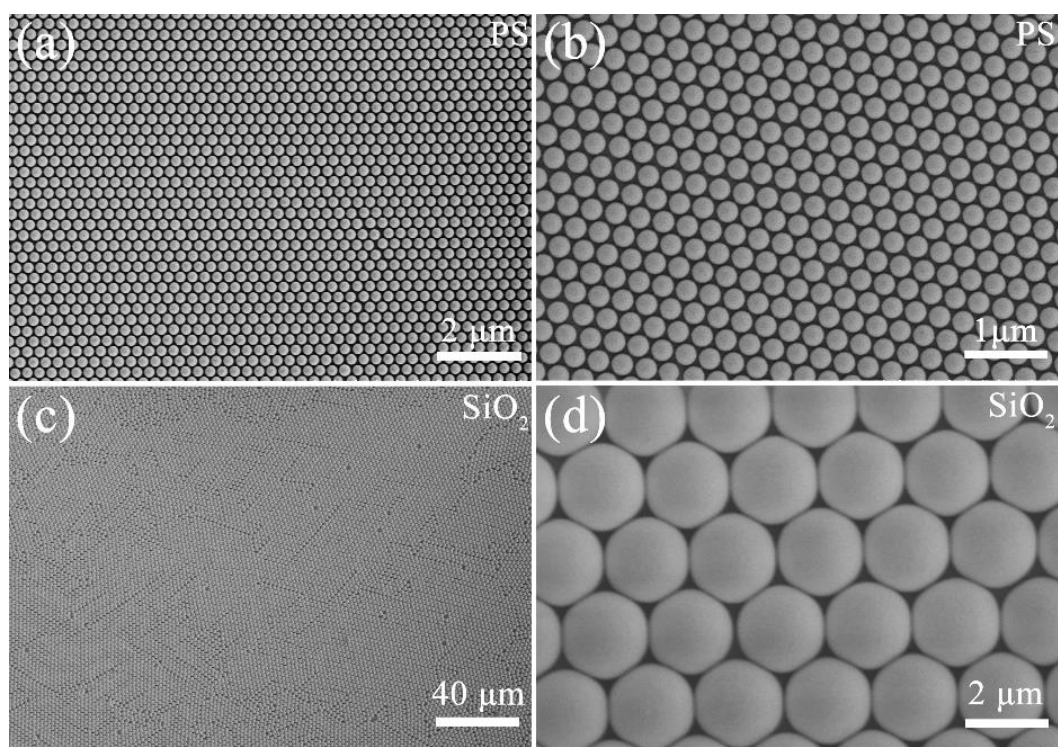

Figure S1 SEM images of large-area monolayer PS nanospheres template (a), (b) and monolayer silica spheres template (c), (d).
- **Figure S1.** SEM images of large-area monolayer PS nanospheres template (a), (b) and monolayer silica spheres template (c), (d).